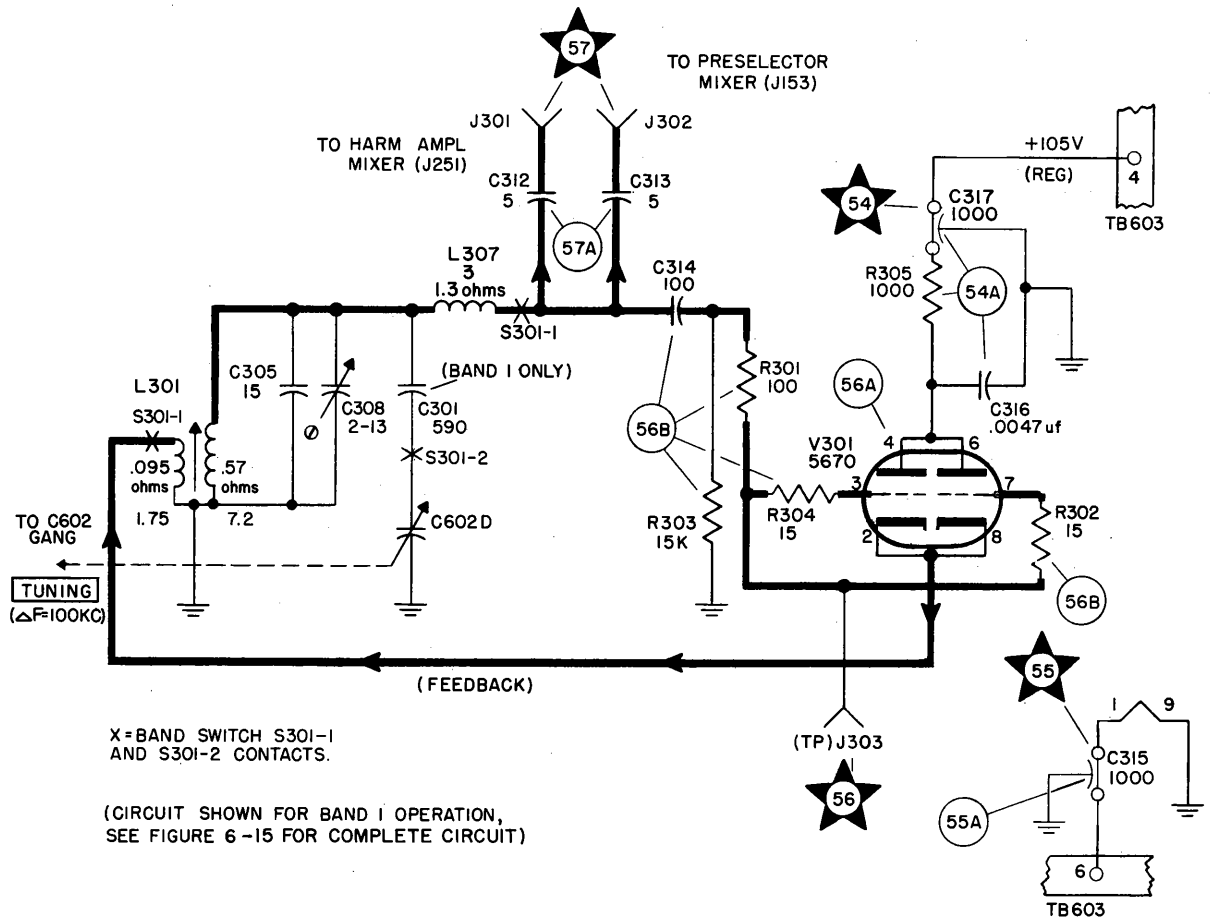

Figure 5-35. High-Frequency Oscillator, Functional Schematic Diagram
*a.* FUNCTION.— The high-frequency (HF) oscillator (V301) generates a local RF signal, which is applied to the preselector mixer (V151) to heterodyne the received signal to the first IF frequency of 1,625 kc to 1,725 kc and which is applied also to the harmonic amplifier mixer (V251) to generate the 825 kc injection signal. Faulty operation of the HF oscillator will affect the output of both the preselector mixer and the injection signal, disabling the receiver. Figure 5-35 is a functional schematic diagram of the HF oscillator.